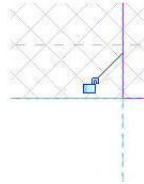

Figure 13. Creating the void rectangle.
- Use the Rectangle tool to create the rectangle shown in Figure 13. Make sure and click all four locks to constrain the rectangle to the sides of the wall and the two reference planes.